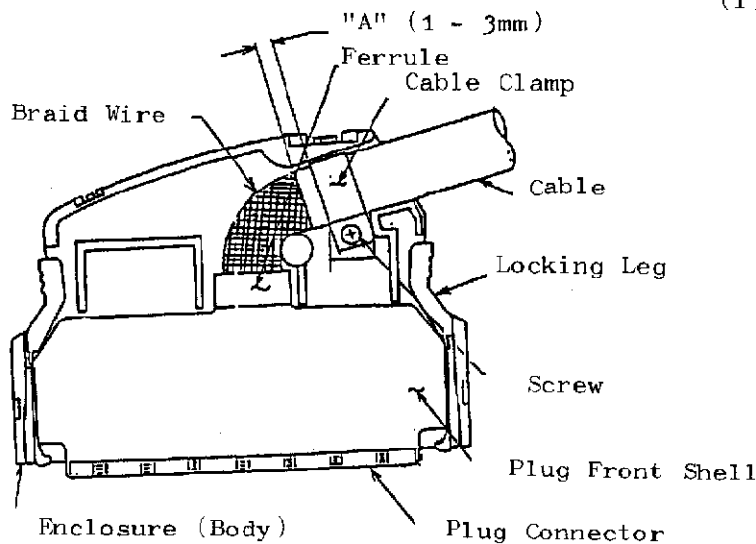

Fig. 14
6.5 Apply enclosure (body) to the connector, and secure it with cable clamp as shown in Fig. 14.
- (1) Insulation stripping length of the cable, and braid trimming length shall be done to conform dimension "A" (1.0 - 3.0mm) as shown in Fig. 14. However, use of cable clamp is not applied to 50-position connector, instead to use enclosure (body) for the purpose as shown in Fig. 14.